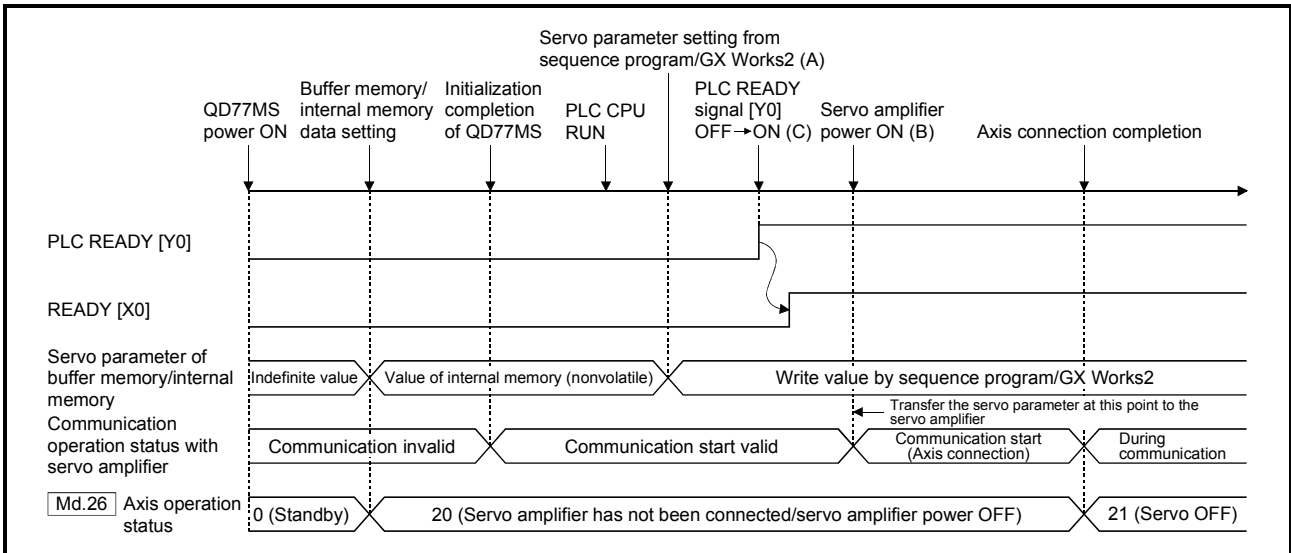

Fig. 7.3 When the servo amplifier had started after the PLC READY signal [Y0] is turned OFF to ON
(2) When the servo amplifier's power supply is turned ON after the PLC READY signal [Y0] is turned OFF to ON (Fig. 7.3 (C)).
Communication start timing to the servo amplifier: When the servo amplifier had started (Fig. 7.3 (B)).
Transfer the the servo parameter : The data written from sequence program/ GX Works2 before the PLC READY signal [Y0] ON (Fig. 7.3 (A)).